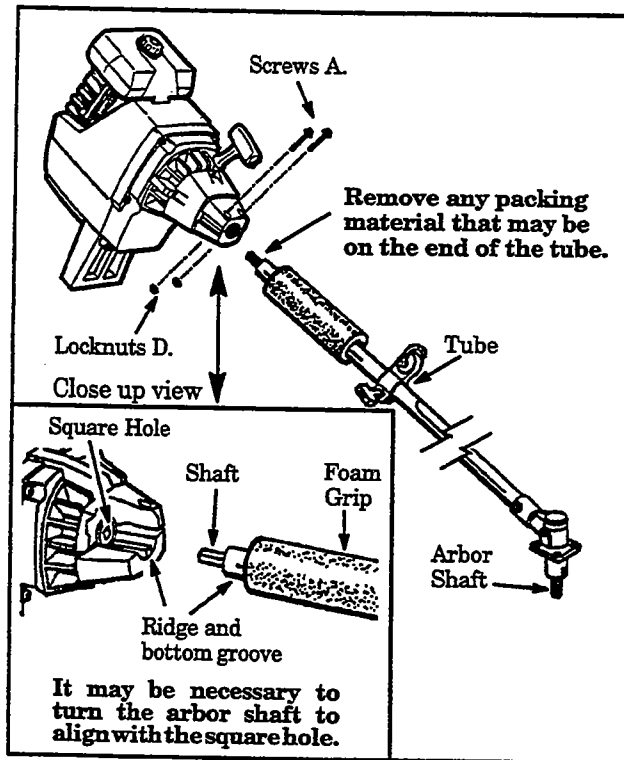

Figure 2
- a. Place screws "A." into the holes on the front shroud as shown in Figure 2.
- f. Turn the arbor shaft at the bottom of the tube as necessary to align the square end of the shaft with the square hole inside the front opening of the engine. Figure 2 (inset).
- g. Firmly push tube into the engine opening until the nose cone contacts the foam grip. Figure 2.
- h. Tighten screws "A." alternately with the hex wrench until secure. Figure 2.